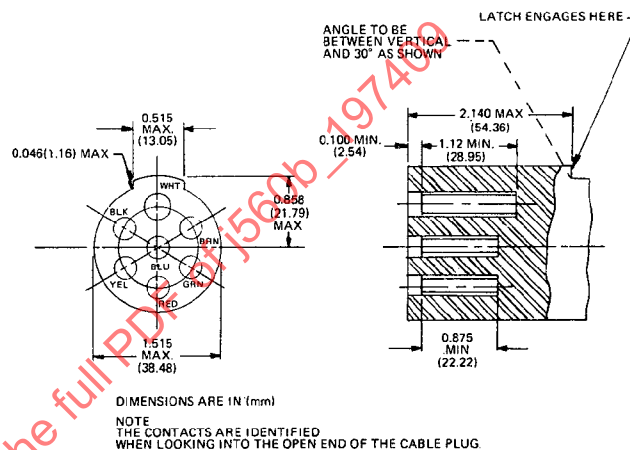

FIG. 3—CABLE PLUG
6.1 Fig. 3 shows cable plug dimensions and minimum design requirements.